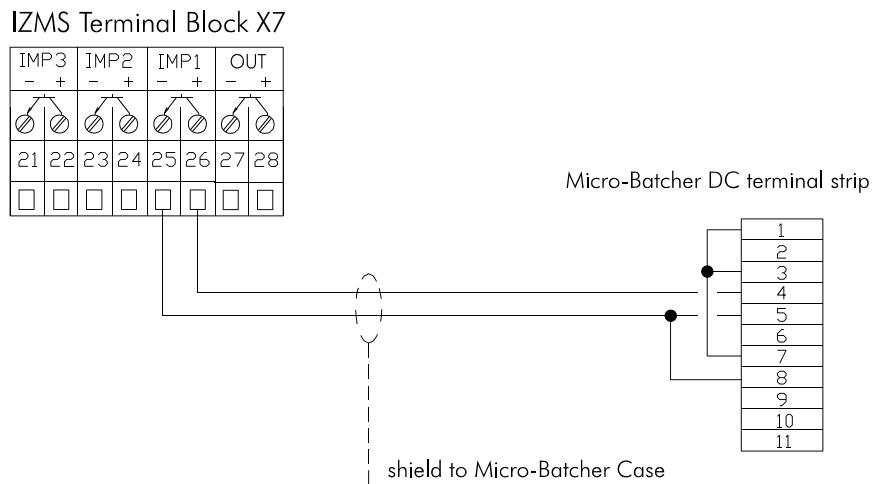

Figure 3-11. MB-51 Micro-Batcher Signal Wiring Configuration
- MB-51P Micro-Batcher (Figure 3-11)